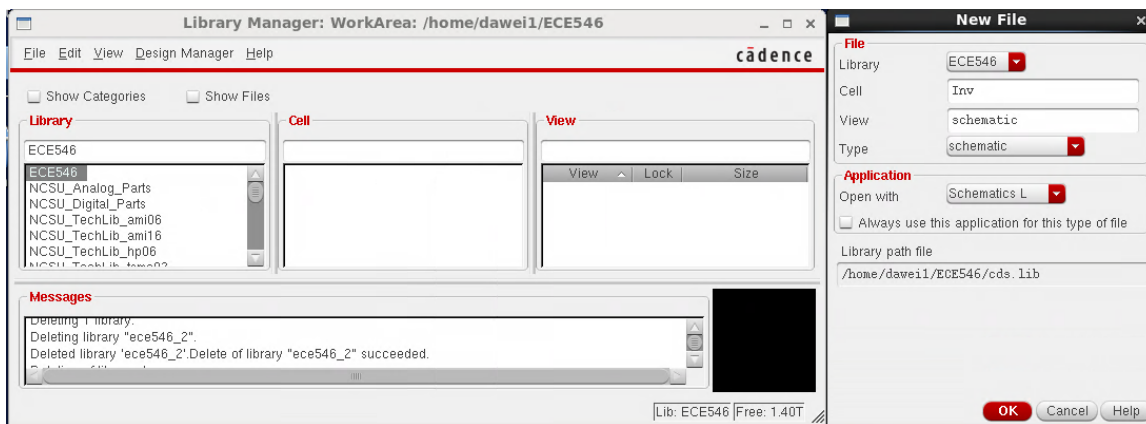

Figure 5. Window view for step 6.
5. A new pop up window as in Figure 5 'attach to an existing technology library'. Choose 'NCSU_TechLib_tsmc02d'.